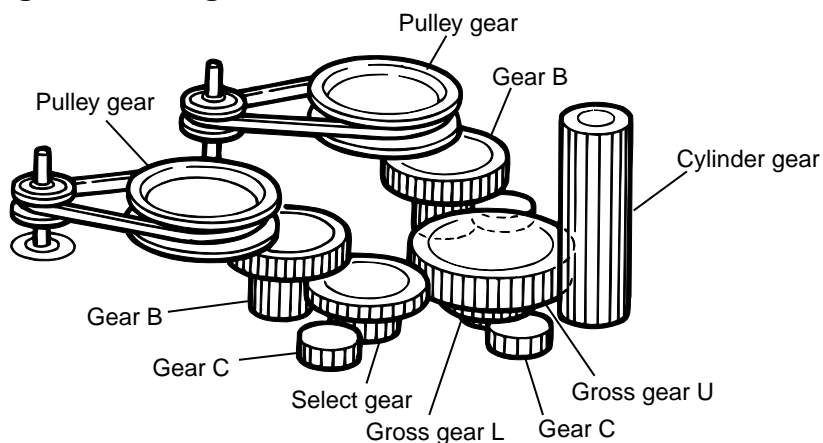

Fig.21
5. After turning over the chassis assembly, remove the actuator motor while spreading the four pawls "v" fixing the right and left actuator motors in the arrow direction(See Fig. 21).